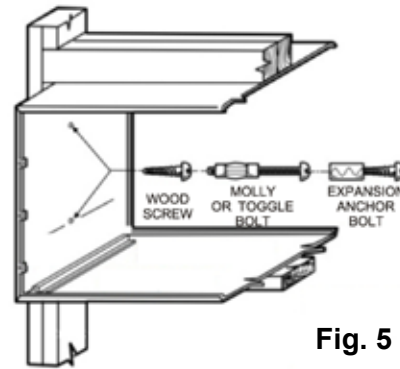

Fig. 5
- Fasten the wall sleeve (Fig. 5).